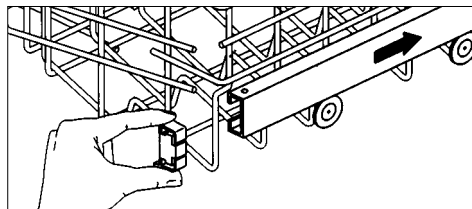
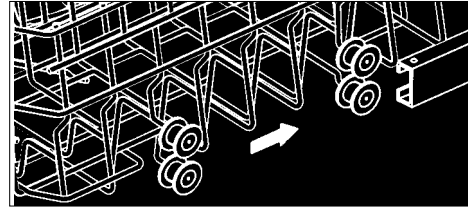

fig. 7
fig. 8
- Pull the basket all the way out (to the front) and remove the guard on the right-hand side (see fig. 7). Remove the basket. Place the other set of wheels in the rails (see fig. 8). Push the basket back into the machine and replace the guard.